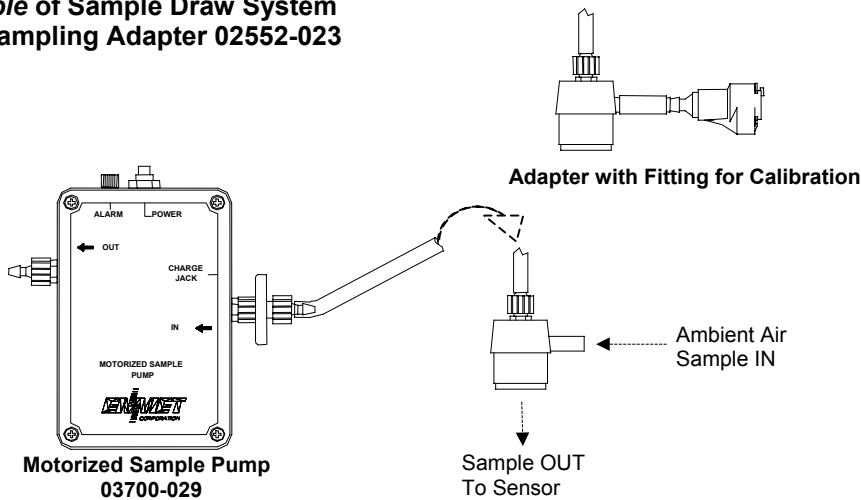

Figure 5: Calibration Adapter with Sample Draw System
(1) Require use of Sample Draw System. See Figure 5.
(2) Recommended use of Sample Draw System, for enhanced sensitivity and speed of response. See Figure 5.